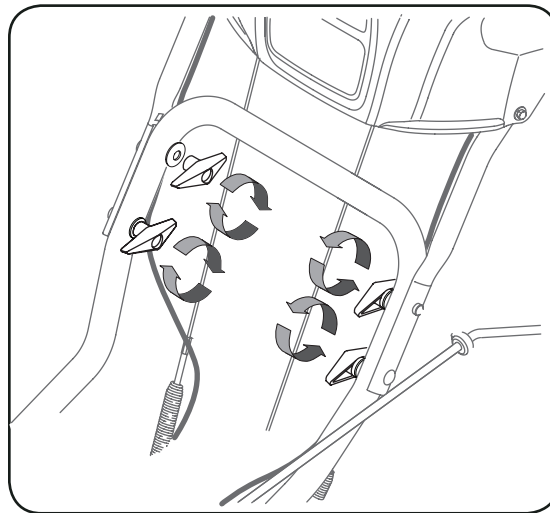

Figure 2
- Remove the lower handle knobs, washers and carriage bolts from each side of the lower handle. See Figure 2.